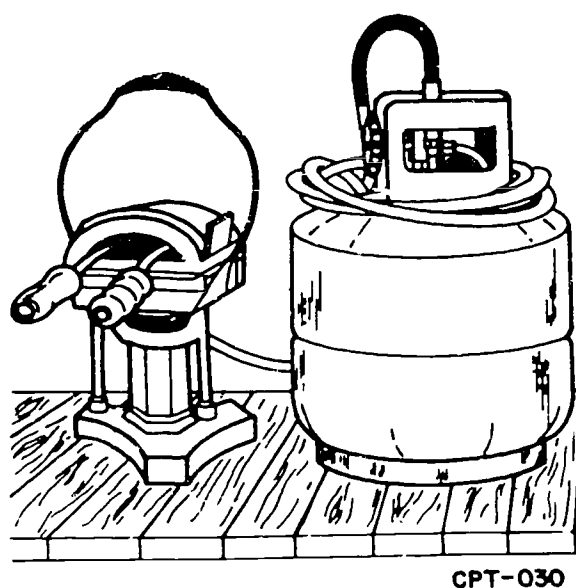

Figure 4-11. Propane tinner's furnace.
**Propane tinner's furnace.** A propane tinner's furnace, illustrated in figure 4-11, is used to heat soldering coppers for jobs outside of the shop. This type of furnace is easy to use and does not present the hazards of the fire pot or blowtorch. The furnace is mounted on a stand or on top of the fuel bottle (not illustrated). These furnaces are fueled by propane gas. The fuel tanks have an excess pressure relief valve and a flow check valve that provide safety in its operation. The fuel tank usually operates for many hours without being refilled. A hose transfers fuel from the tank to the furnace. As we all know, a hose can become frayed, so check the hose often and keep it away from heat or hot coppers. Replace a frayed hose immediately. Don't wait or you may be too late.